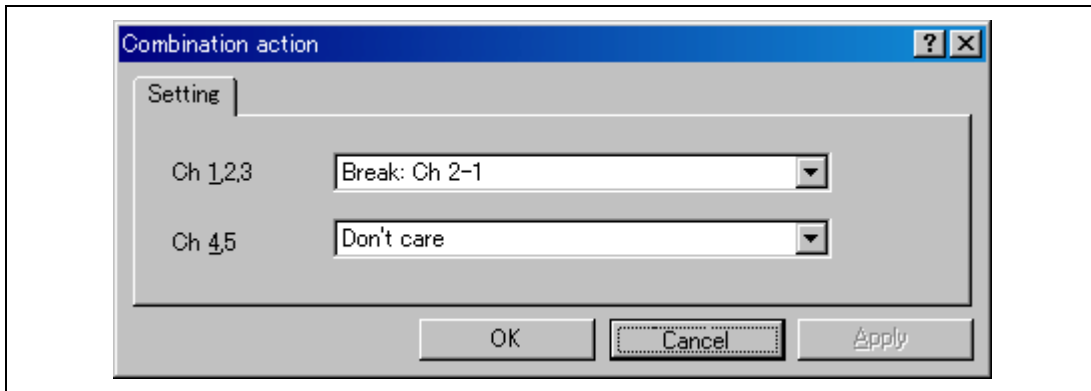

Figure 6.40 [Combination action] Dialog Box
- Select [Combination action] from the popup menu by clicking the [Event] window with the right-hand mouse button. The [Combination action] dialog box will open (figure 6.40).